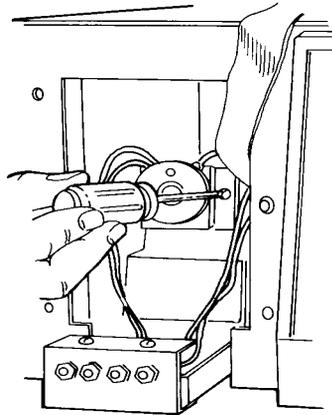

Figure 5-10 Removing Binder-head Screws from Flow Cell
2. Remove the two large binder-head screws and star washers, while holding the flow cell in place in the detector (Figure 5-10).
Figure 5-10 illustrates how to remove the binder-head screws from the Flow Cell.